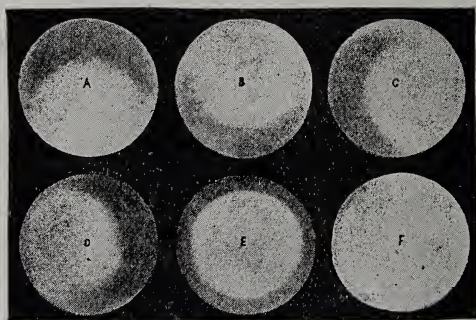

Fig. 59. PHOTOGRAPHS OF THE SCREEN WITH THE JET IN AND OUT OF POSITION.
should be adjusted by the maker.) To do this, the jet having been lit and the oxygen turned on, a slide must be put into the lantern, and disregarding for the moment whether its illumination is even or not, focussed upon the screen, after which it can be taken out without disturbing the focussing. The chances are that the circle of light upon the sheet will now resemble either A, B, C, D, or E, Fig. 59, which indicate respectively that the light is too high (A), too low (B), too much to the right (C), or to the left (D). This must be corrected by slackening the screw which holds the jet in position on the tray pin, and finally clamping it again when the disc presents the appearance denoted by E. When this is the